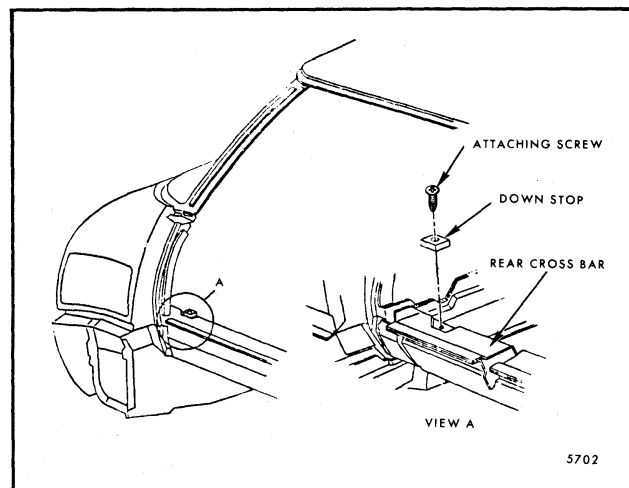

Fig. 7-113-Tailgate Lift Arm Down Stop
1. Raise tailgate window. Remove down travel stop on rear cross bar and lower tailgate (Fig. 7-113).